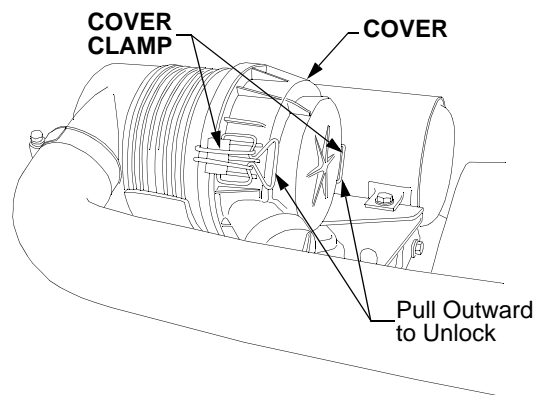

Figure 54
- Unlock the clamps to remove the air cleaner housing cover. See Figure 54.
- Position the cover on the housing. Hook the two clamps onto the rim of the housing and lock the clamps. Refer to Figure 54.